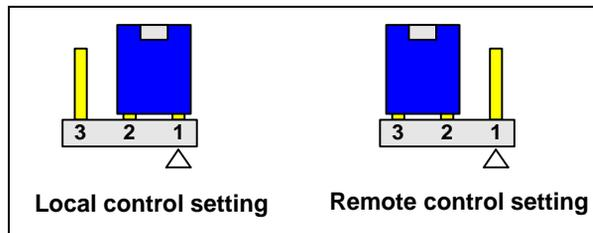

Figure 2-2. The CJPC1 Settings for Local and Remote Control
2. Place a jumper on pins 1 and 2 to set the module for **Local** control or pins 2 and 3 to set the module for **Remote** control. See Figure 2-2.